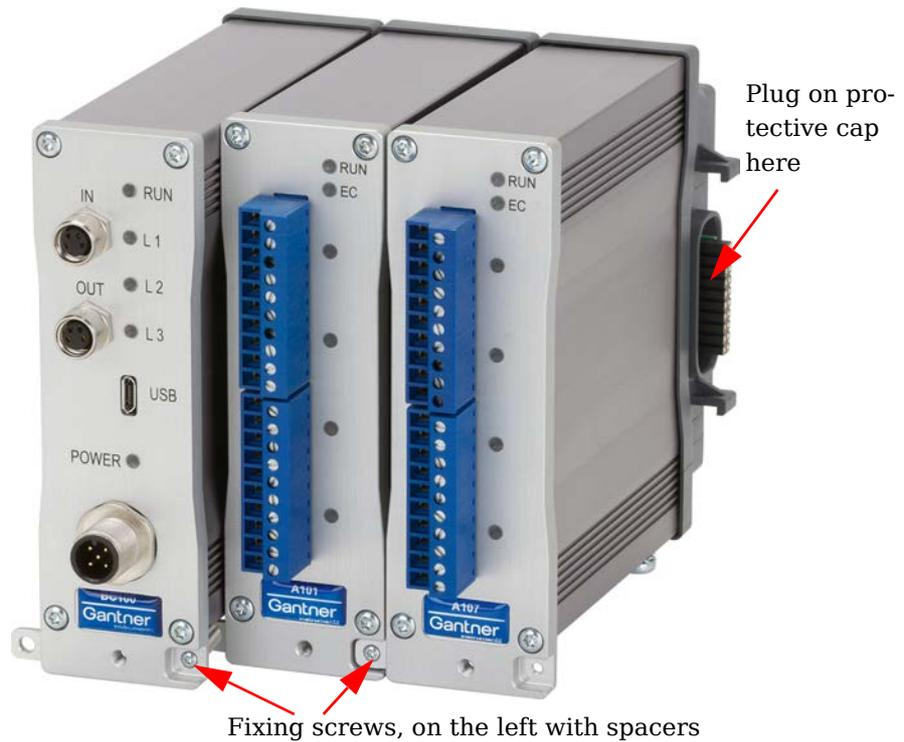

Fig. 5-3 Fixing screws and protective cap.
4. Screw in the fixing screw (Fig. 5-3, with spacers).
6. Screw in the fixing screw(s) (Fig. 5-3).
7. Plug the supplied protective cap onto the connector to the right (Fig. 5-3) on the last module.
1. Remove the fixing screw (Fig. 5-3) on the front panel which holds adjacent modules or a module and the bus coupler together.